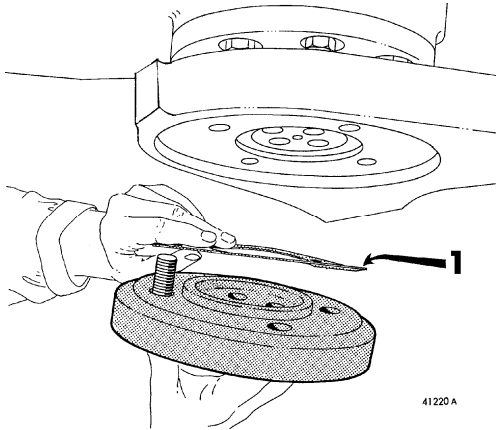

Figure 7
14. Remove the cover and the shims under the pin, see Figure 7.